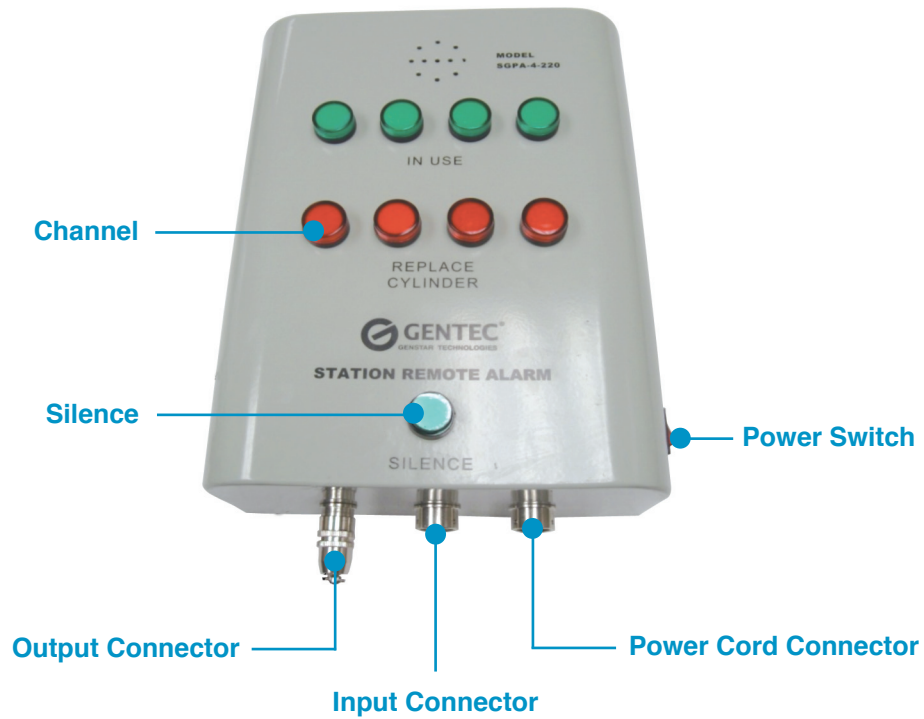

Figure 2
5. Connect the power cord and the connector cord to tie in the dry contacts (IPS). See Figure 2.